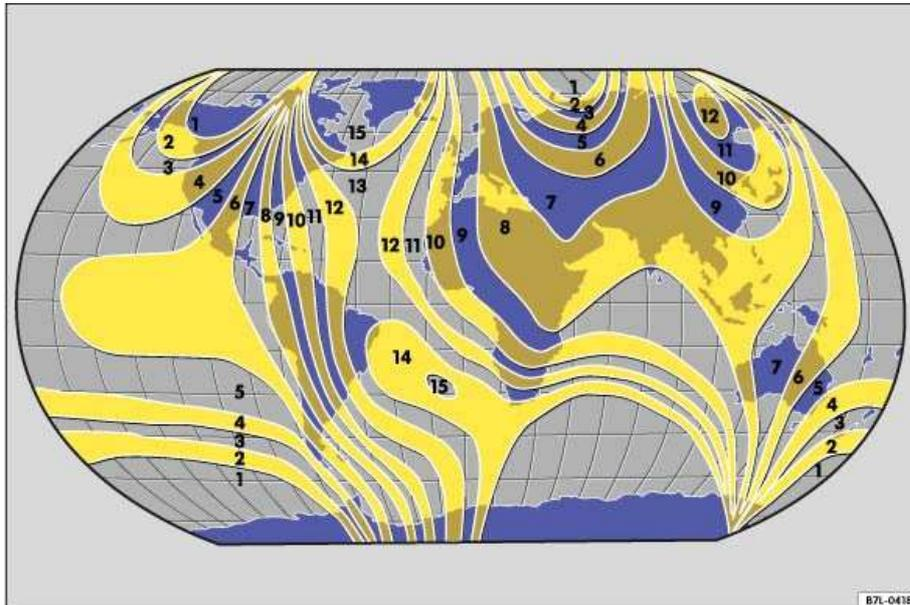

Fig. 15 Worldwide compass zones.
- Find your current location, variance zone and its number ⇒ Fig. 15.